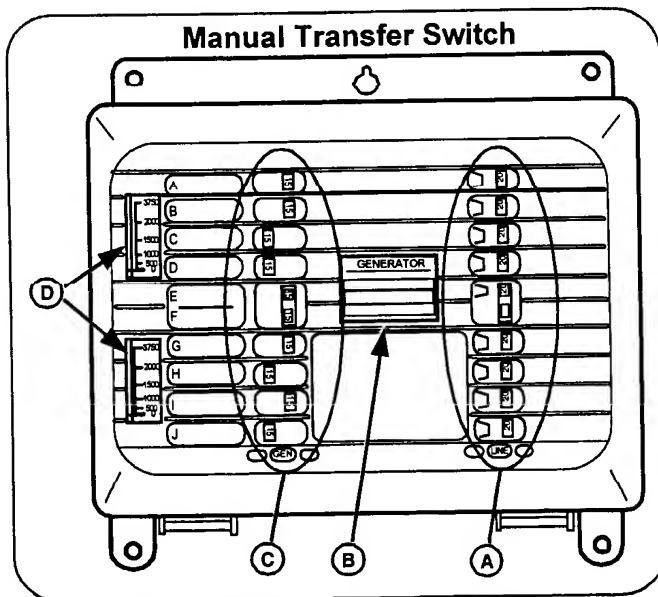

Figure 2. Manual Transfer Switch Controls
3. Place ALL of the utility "LINE" circuit breakers (A) in the OFF position. Refer to Figure 2.
4. Move the selection switch (B) from the utility LINE setting to the GENERATOR setting.